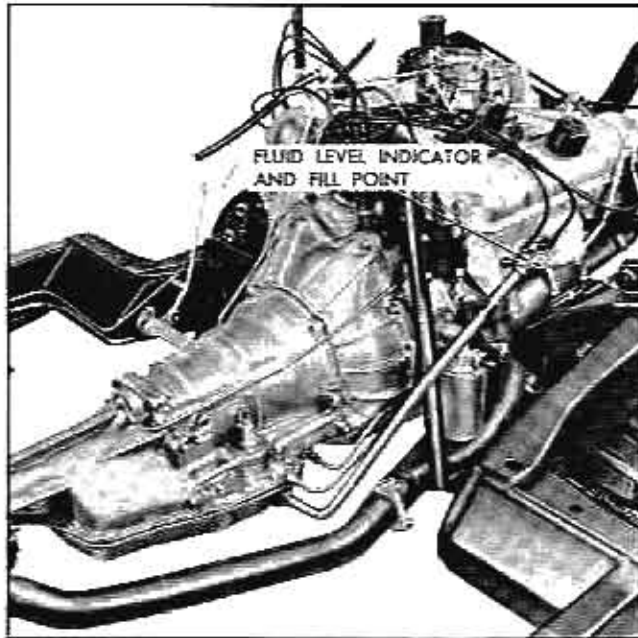
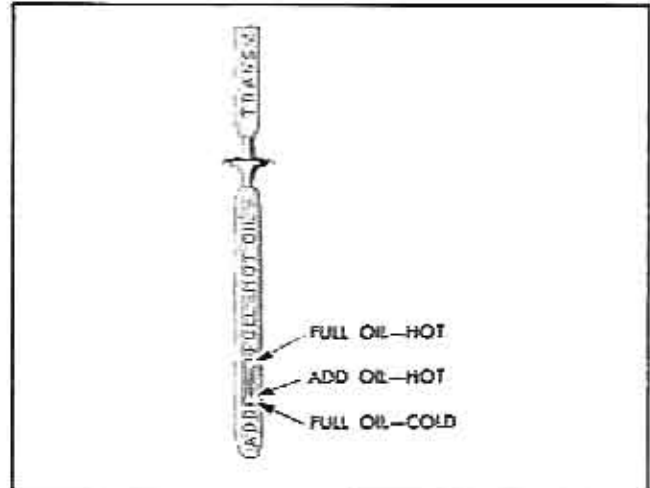

Fig. 32 Fluid Level Indicator
Fig. 33 Indicator Markings
The fluid level indicator is located in the filler pipe at the right rear corner of the engine (Fig. 32). To
bring fluid level from lower mark to full mark requires 1 pint (Fig. 33).
2. With engine idling at normal idle speed, check oil level indicator (Fig. 32) and note reading (Fig. 33). NOTE: When adding fluid use Automatic Transmission Fluid (Type A) from containers bearing Armour Institute qualification designation "AQ-ATF".